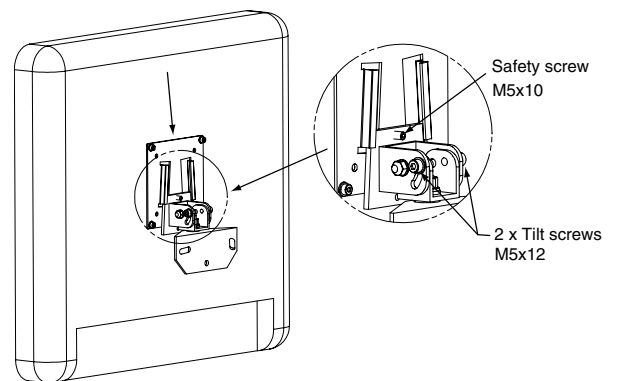

Figure 3
- ④ Snap the wall bracket to the mounting plate (see Fig. 3)
- ⑤ Lock the panel in place by tightening the safety screw (see Fig. 3).